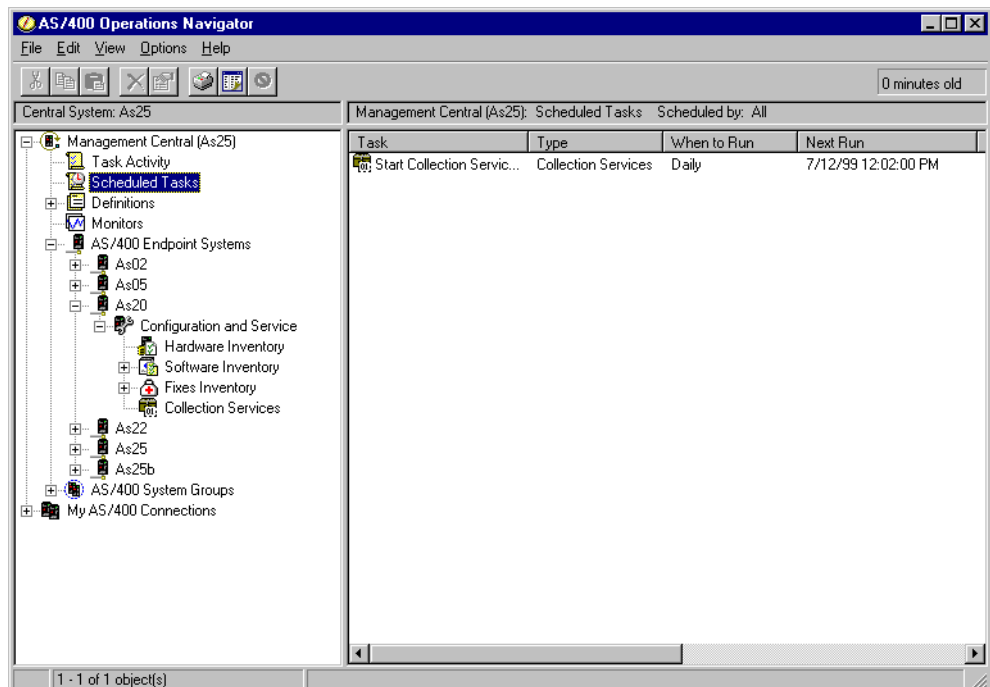

Figure 117. Scheduled tasks displayed
1. Click on **Scheduled Tasks** to see the entry for the task, as shown in Figure 117.